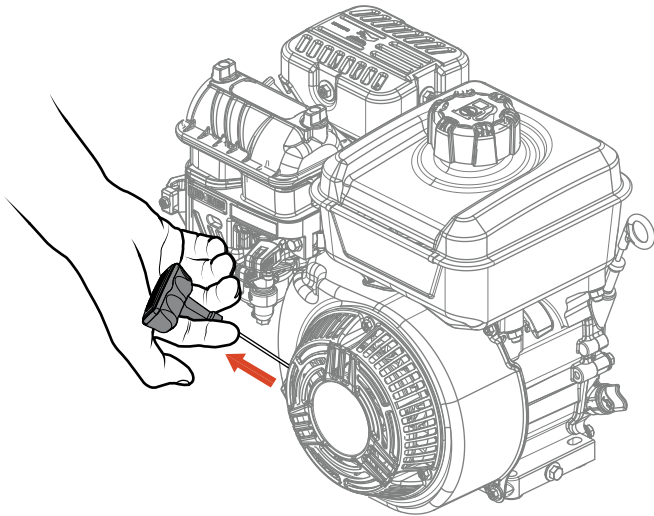

Figure 11. Starter Grip
4. Slowly pull the **starter grip** (Figure 11) until resistance is felt, then pull briskly and smoothly to start the engine. Gently return the starter grip to its original position.